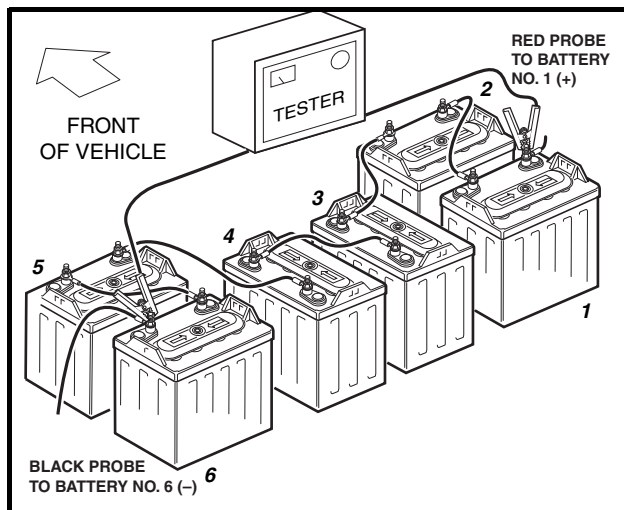
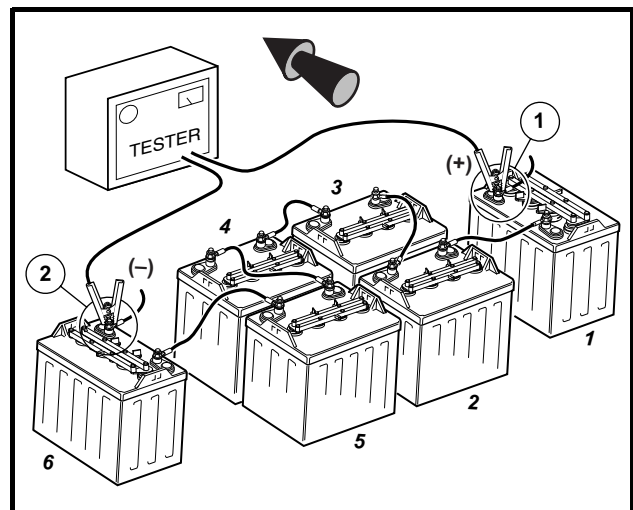

Figure 14-4 Turf 1/Carryall 1 Battery Discharge Test
Figure 14-5 DS Villager 4 6x8-Volt Battery Discharge Test
2. Connect the tester leads to the positive (+) post of battery no.1 and negative (-) post of battery no. 6 last (Figure 14-4, Page 14-9) or (Figure 14-5, Page 14-9).